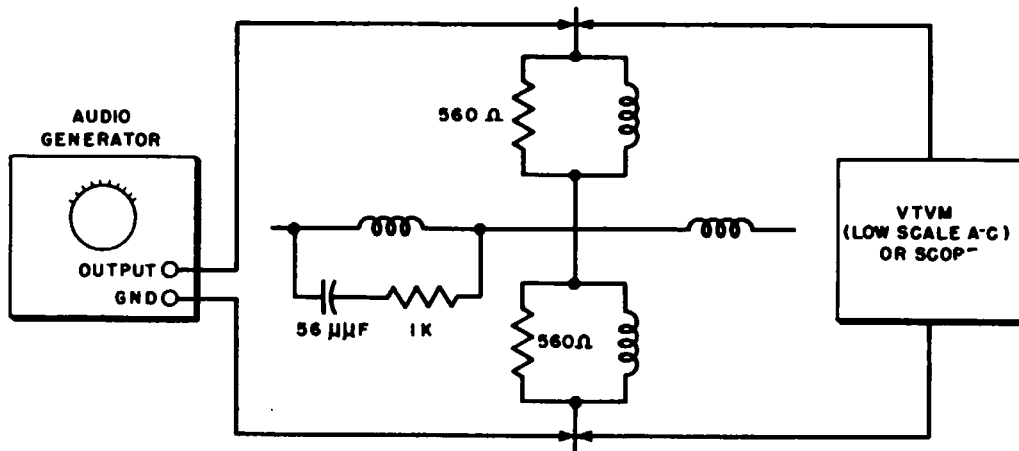

Fig. 7-9. Measuring the resonant frequency of a deflection yoke.
- b. Connect a vtvm (low scale ac) or a scope across the full winding to be checked (Fig. 7-9).
- c. Connect the output of an audio generator across the full winding to be checked (Fig. 7-9).